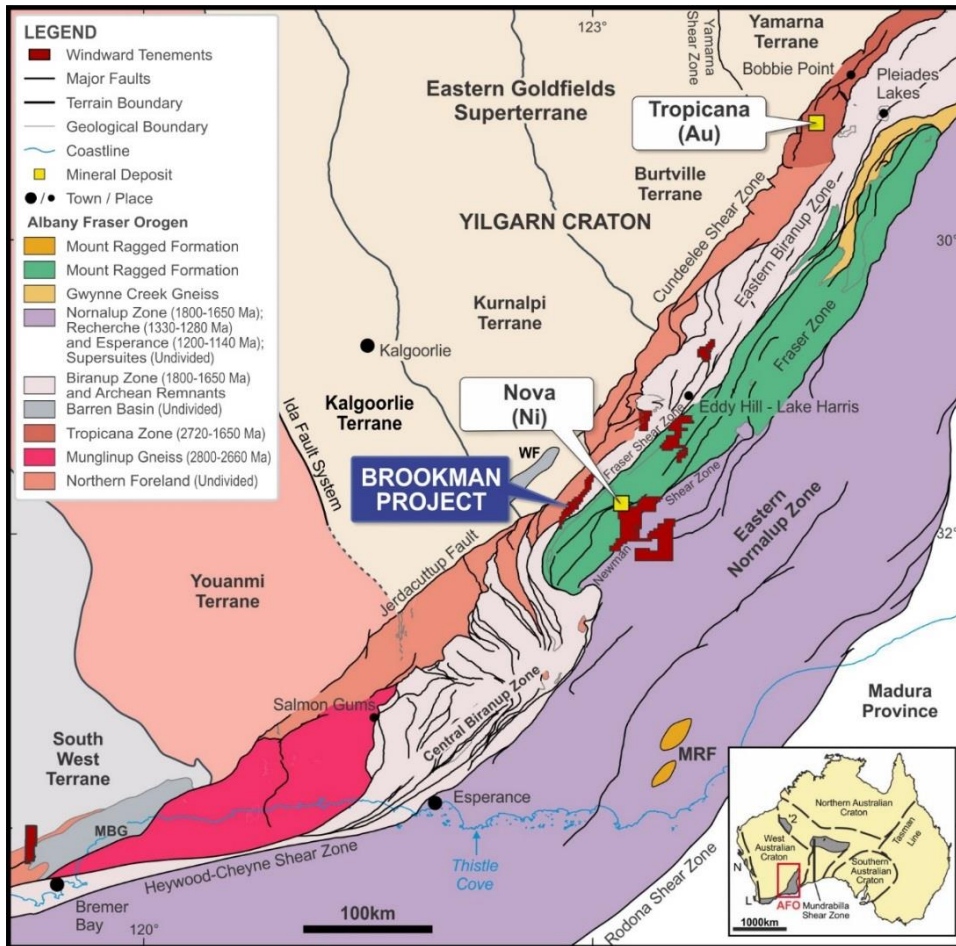

Figure 1: Location of Brookman Gold Prospect
Further to its announcement of 5 October 2016, Windward Resources Ltd (ASX: WIN) advises that it has completed and received all assay results from the 1,500m Reverse Circulation (RC) drill program at the Brookman gold prospect, located on its Fraser Range North tenements in WA (see Figure 1).